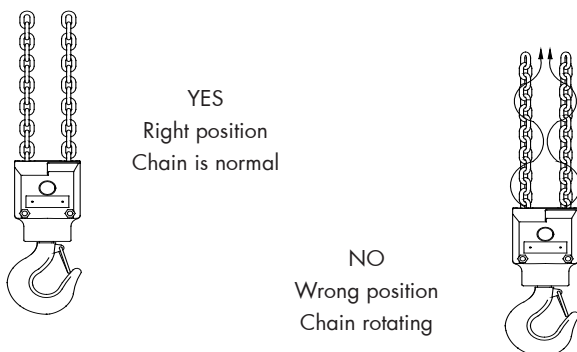

Figure 1
- The chain is twisted (two falls unit), figure 1.